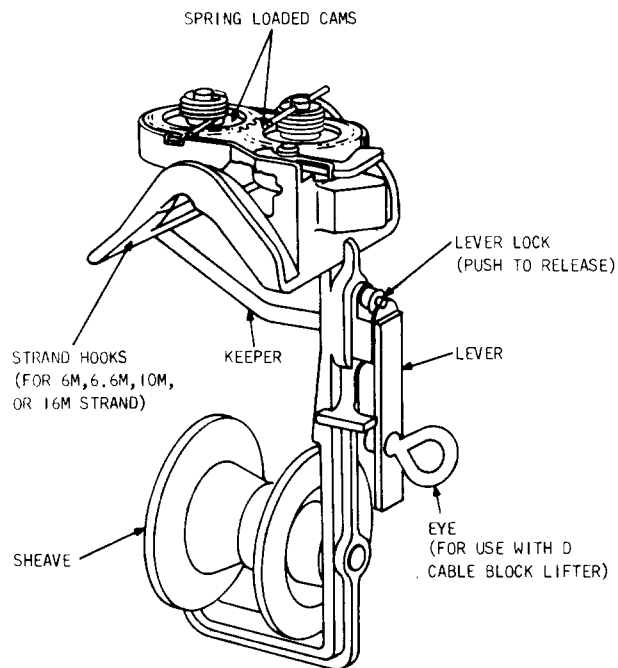

Fig. 3—K Cable Block
3.04 K Cable Block: The K cable block (Fig. 3) is a reversible block which supersedes the J cable block and is used for supporting aerial cable prior to lashing an initial or second cable to the strand. This block has two spring loaded cams which are opened manually in the desired direction and held open by a release lever. When the lever is pulled down, either manually or with the D cable block lifter, the cams are wedged against the strand and the strand keeper is engaged preventing the block from becoming disengaged from the strand. The lever lock maintains the keeper in a closed position until released.